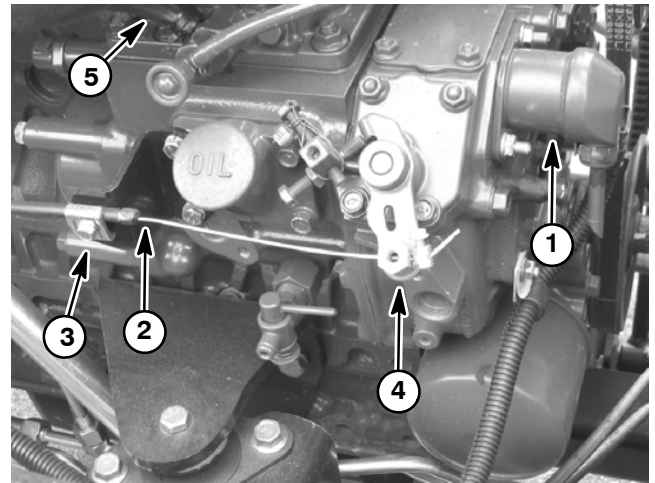

Figure 9
- A. The engine run solenoid (Fig. 9).
8. Disconnect fuel supply hose from injection pump (Fig. 9). Cap fuel hose and injector pump fuel inlet to prevent contamination.
9. Remove throttle cable from engine (Fig. 9):